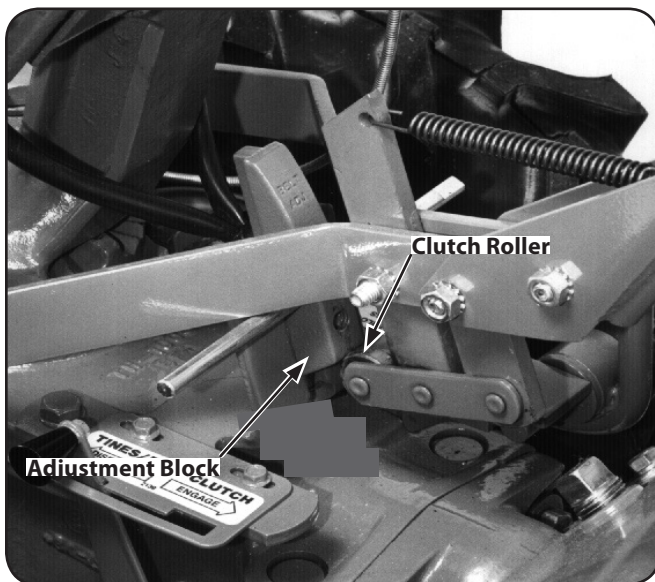

Figure 6-16
4. Place the Wheels/Tines/PTO Drive Lever in FORWARD position. The arms of the clutch control yoke will be resting on the belt adjustment tool and the clutch roller should be engaged slightly beneath the adjustment block. See Figure 6-16.